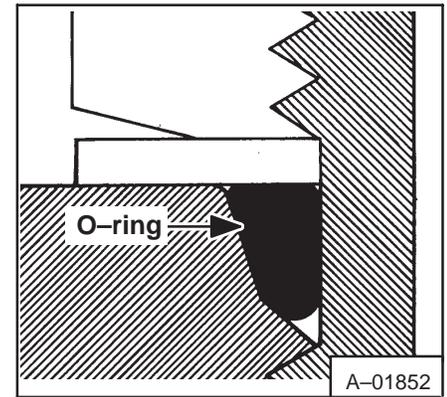

Fig. 2-6 Seal In Place
3. Hold the fitting with a wrench. Use another wrench to tighten the lock nut (Fig. 2-6). The ring will fit into the space as shown.